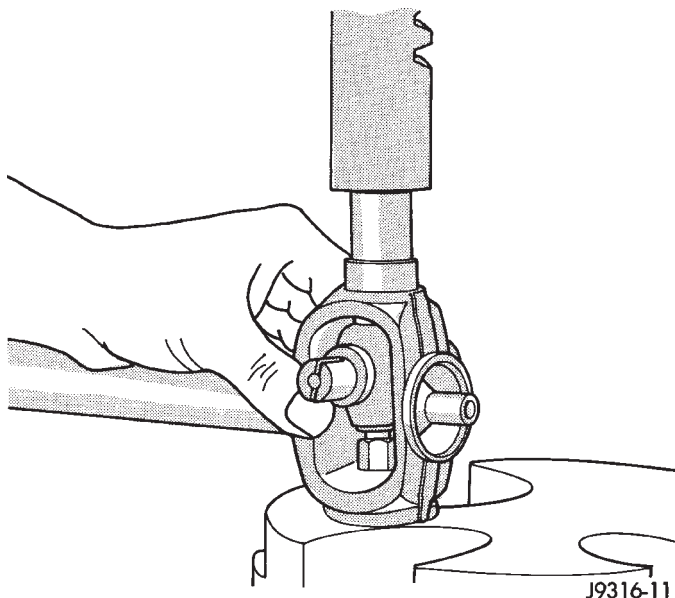

Fig. 25 Press In Bearing Cap
- (4) Press the bearing cap into the yoke bore enough to install a snap ring (Fig. 25).